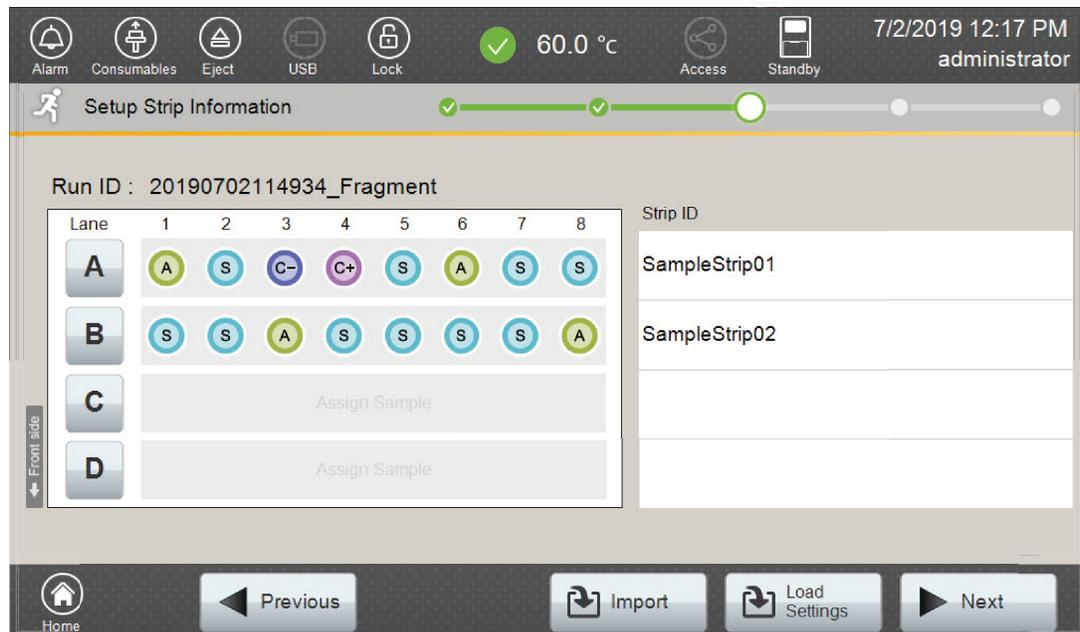

Figure 19. Completed 'Setup Strip Information' screen.
13. After all the required lanes have been set up, select **Next** on the 'Setup Strip Information' screen to load the sample cartridge (Figure 19).